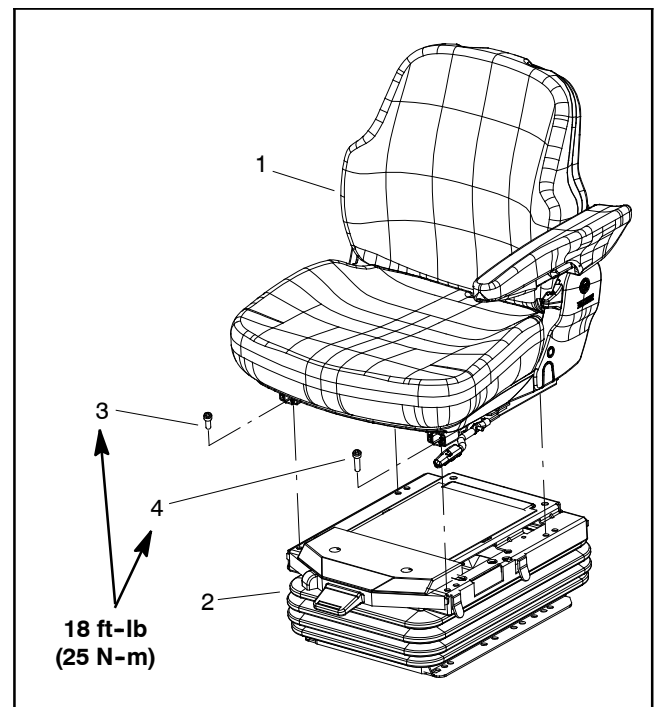

Figure 26
8. Remove four (4) torx head screws that secure seat to seat suspension (Fig. 26). Note that the screw near the seat adjustment handle is longer than the other three (3) screws.
2. Secure seat to seat suspension with four (4) torx head screws (Fig. 26). Make sure that longer screw is positioned near the seat adjustment handle. Torque screws **18 ft-lb (25 N-m)**.